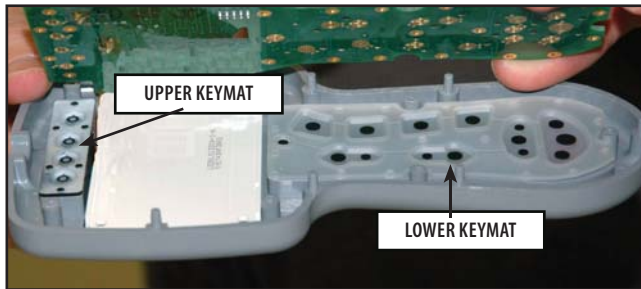

FIGURE 6.26
2. Lift to remove the Keymat. **Refer to Figure 6.26.**